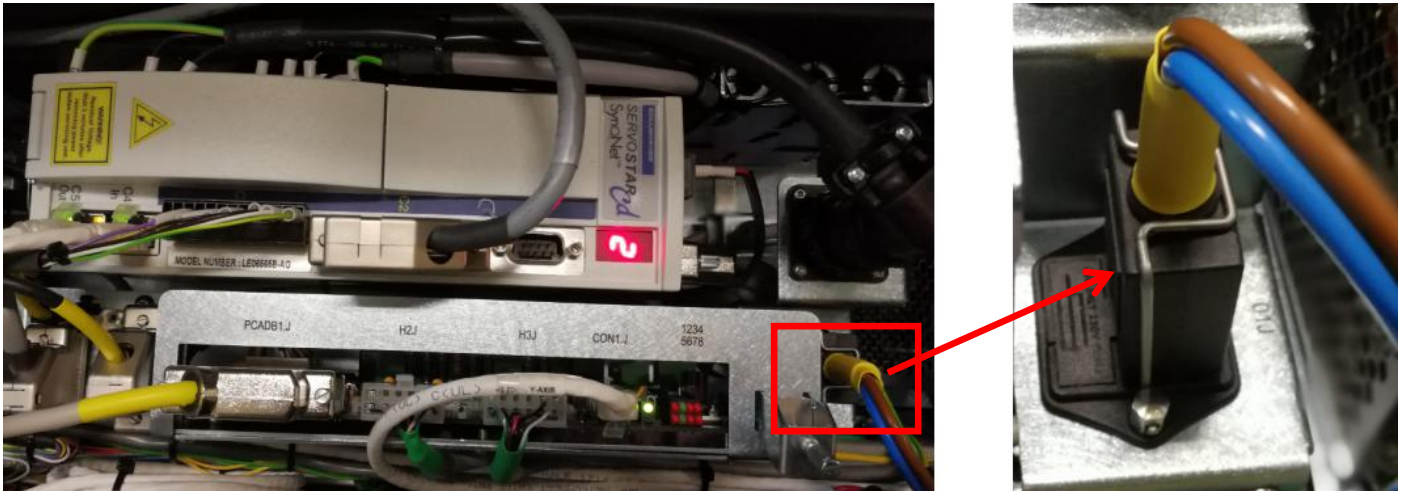

Figure 32
37. Connect Power Connector at 01J as below Figure 32.